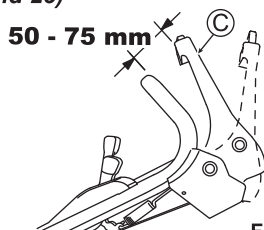

Fig. 25
Adjust so that the blade starts rotating when the distance between Blade lever (C) and the handle is 50 - 75 mm with the yellow button pressed as shown in Fig. 25.